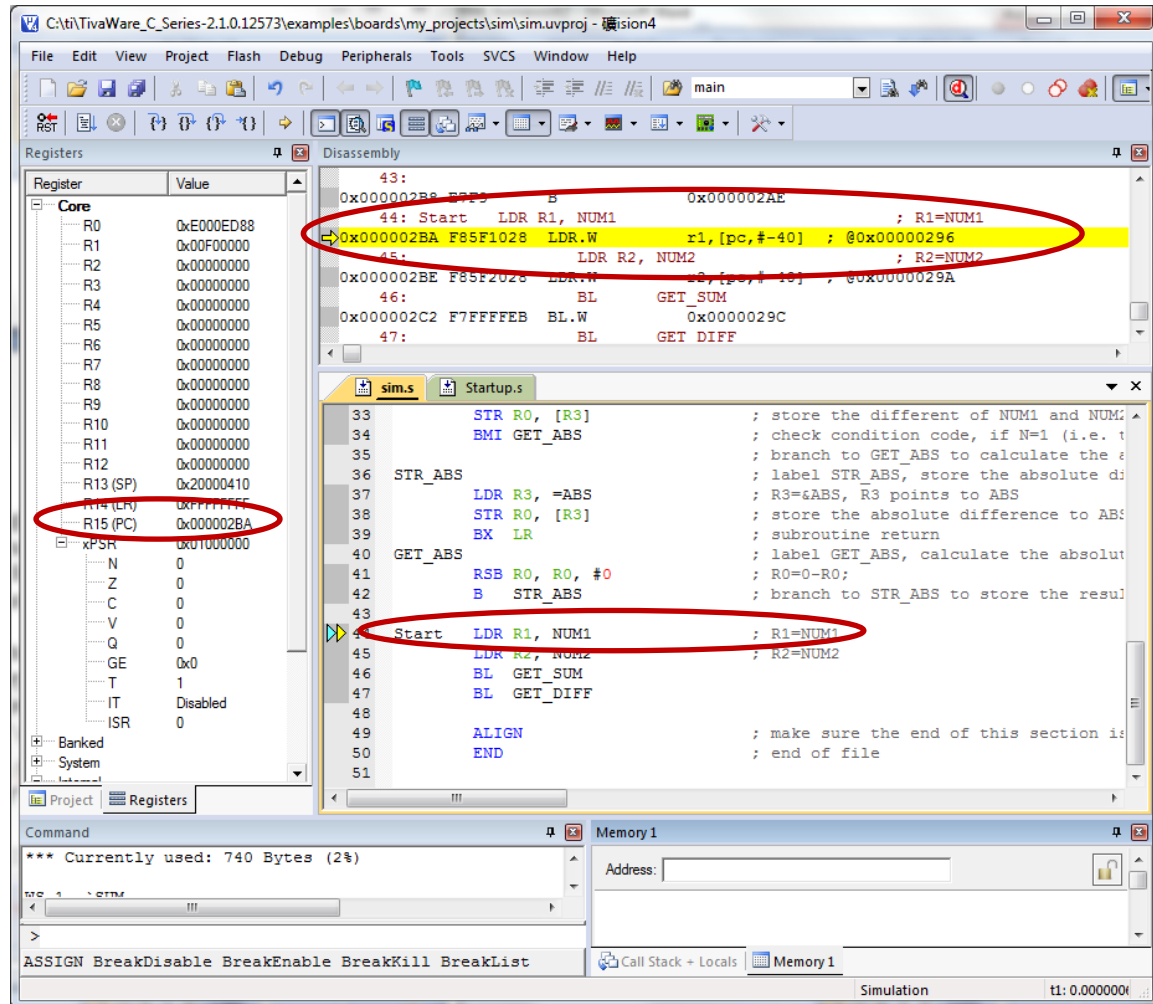

Figure 11
11. **Disassembly Window.** The Disassembly Window shows the program execution in assembly code. You can see the memory address, the machine code, and the assembly code of each instruction in this window. The currently executing instruction is always highlighted in the window. Figure 11 shows an example in which the program counter (R15 PC) points to the first instruction to be executed in sim.s: “Start LDR R1, NUM1”. We can see in the Registers Window, the content in PC is 0x0000.02BA, which is the memory address of the instruction to be